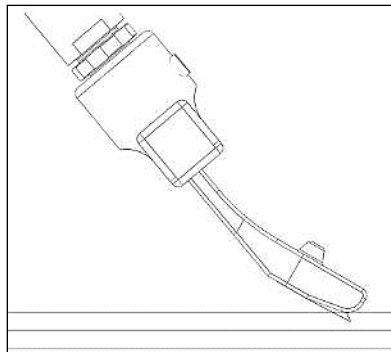

Figure 8. Initial Gap Filler Engagement
- 3.2.2. With the forward cutting edge of the TGB at a 25-30 degree angle to the surface of the gap filler, pierce the gap filler so the forward cutting edge is embedded in the gap filler. See **Figure 8**.